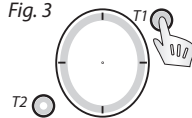

Fig. 4
- **Commands** - (Fig. 3) you can assign an actuator (Fig. 5) from a selected room (Fig. 4) and define its function that will be executed when the scene is activated.